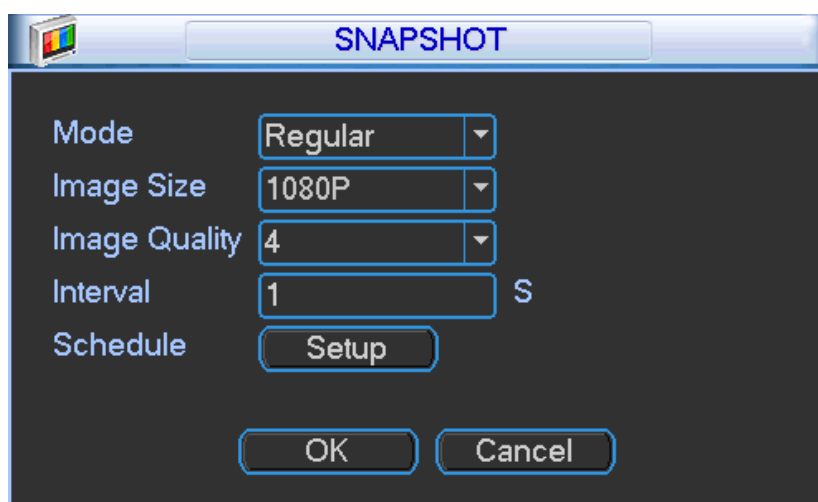

Figure 4-43
- Snapshot: Click snapshot button, you can set snapshot mode, picture size, quality and frequency. See Figure 4-43.